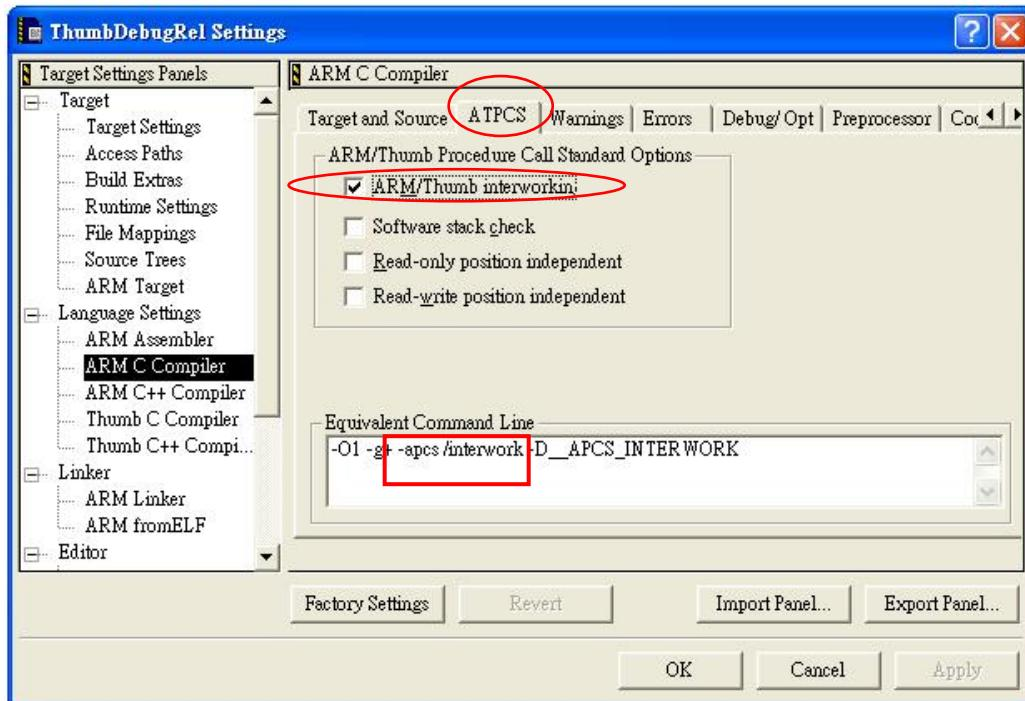

Figure 37. ATPCS setting.
- 3.2 A **ThumbDebugRel Setting** window appears. Click **Language Settings** ➔ **ARM C Compiler in Target Setting Panel**, and then click **ATPCS** tab Figure 37.